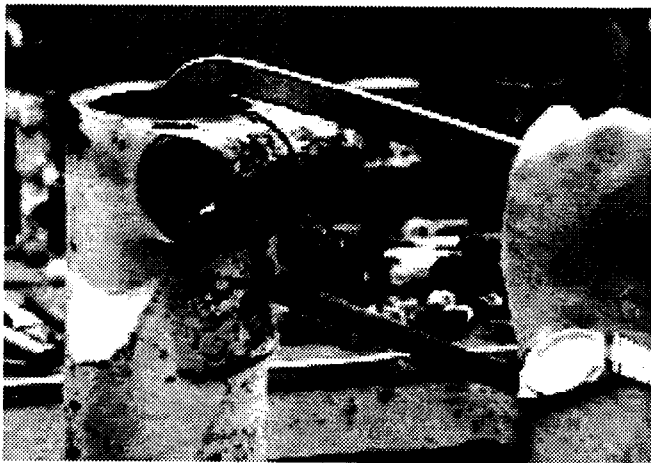

Figure 2.
x. Remove the anvil bushing spring (27) and the spring seat (31) from the fronthead end of the housing (1).
y. If damaged, the piston seat (5) may be removed by:
1. Using a hacksaw, place the saw into the slot in the fronthead end of the housing (1). Cut the piston seat retainer (30). Rotate the retainer with a screwdriver and saw the retainer again. Remove the retainer. Refer to Figure 2.